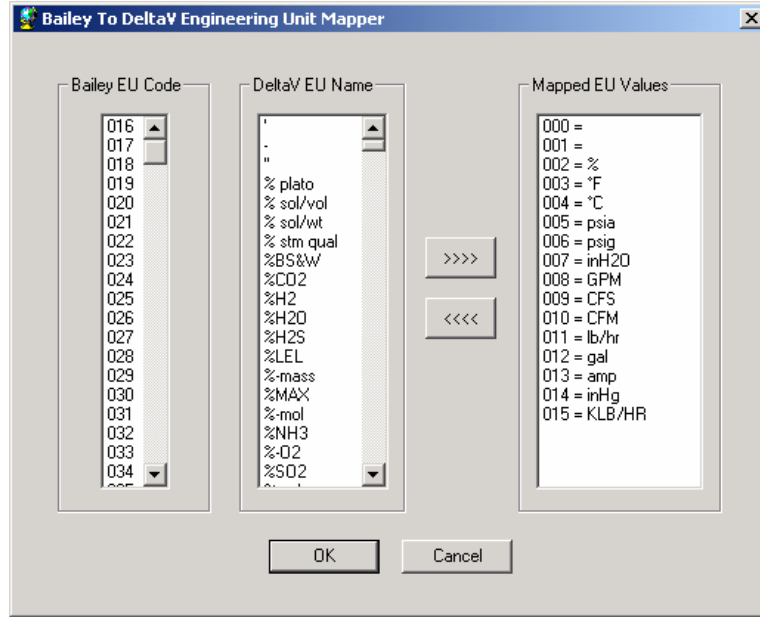

Fig 3.1.4 – Engineering Map Utility
6. The engineering unit map utility will be run by setup (see fig 3.1.4). This utility allows a map of Bailey engineering unit codes to DeltaV engineering unit descriptors to be defined. This utility can be dismissed and filled out at a later time if a list of Bailey engineering units code and associated text strings is not readily available during setup. See the section entitled “Translation of Engineering Units from Bailey to DeltaV” for more details.